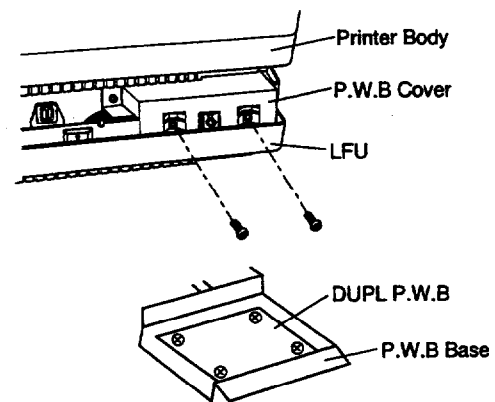

Fig.7-34
[See Figure 7-34.]
- ⑤. Remove the P.W.B holder assembly from the LFU. [See Figure 7-34.]
- ⑥. Remove the fixing screws (ST3 × 6: 2 pcs.) of P.W.B holder from the P.W.B base assembly.
- ⑦. Remove the DUPL P.W.B from the holder assembly.